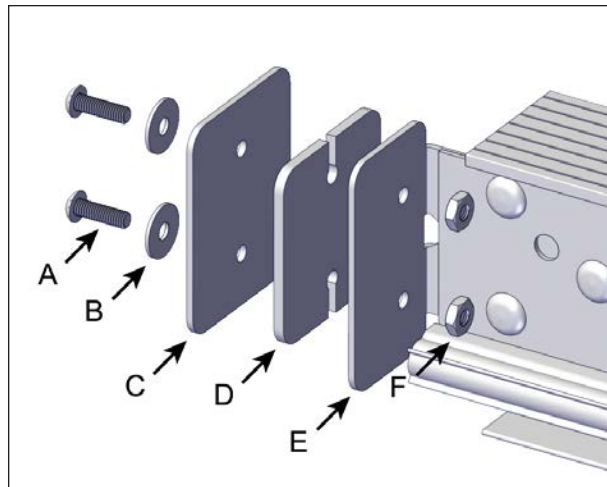

FIGURE 22: I-BEAM WITH THE SHORT I TO C CONNECTION PLATE INSTALLATION
4. Use #10-32 x 5/8" screws and #10-32 nuts. Insert the I to C spacer in between the I to C connection plate and the bracket. The screws and nuts can now be properly tightened, see Figure 22.